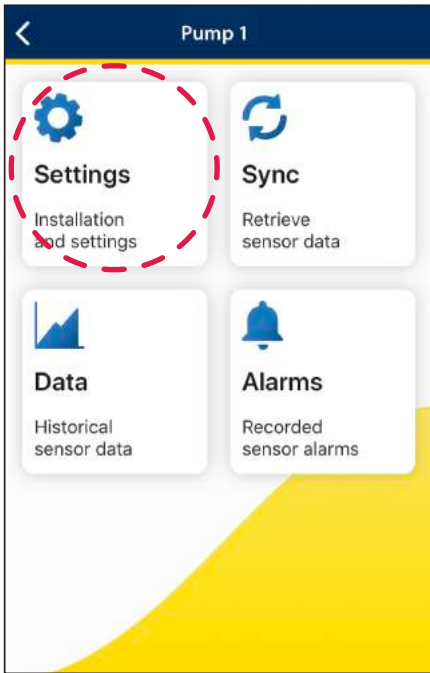

Figure 17
1. Select **Settings** (see figure 17).